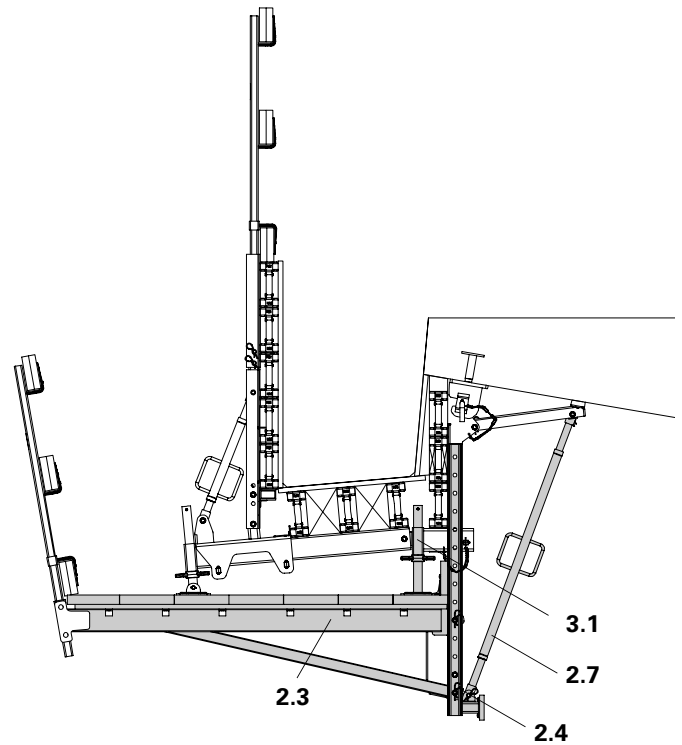

Fig. A4.02a
- Kicker AV 140 (2.7) is always mounted below the Platform Cantilever Beam (2.3) in the next possible hole of the Bracket Post (2.4) with bolts and cotter pins. (Fig. A4.02a)